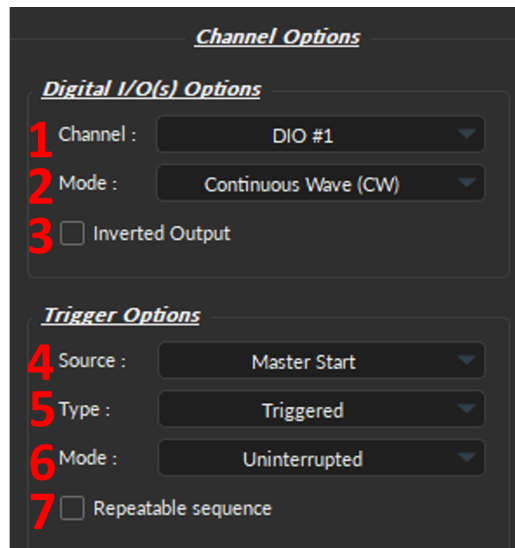
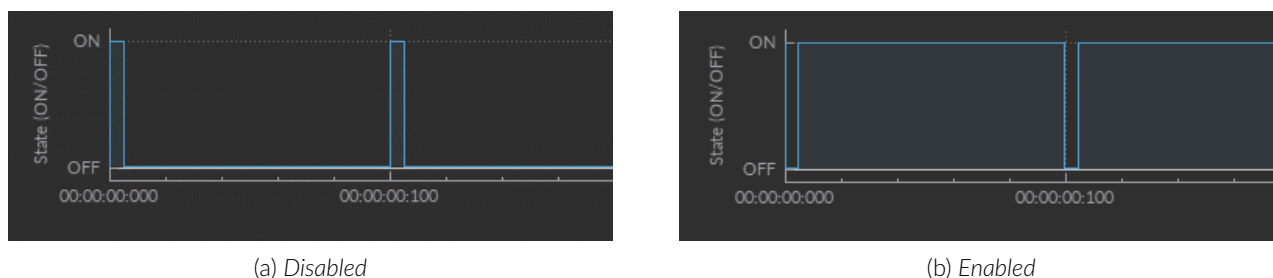

Figure 8.11: Channel(s) configuration window, Digital I/O Channel Options
Figure 8.13: Inverted Output
1. The **Channel** (Fig 8.11, 1) identifies the channels available to create a Digital I/O. The channel can be changed by selecting a new one from the drop-down list. Each numbered channel on the physical OPG corresponds to the same number of the digital channel within the software.
2. The **Mode** (Fig 8.11, 2) identifies the type of signal sent (for output channels) or the way the signal is measured (for input channels). Three modes are available:
3. The **Inverted Output** checkbox (Fig 8.11, 3), when enabled, will convert every 0 to 1 and 1 to 0, such as in Fig. 8.13.
4. The **Source** trigger option (Fig 8.11, 4) specifies the element that will set off the digital output. Two options are available:
5. The **Type** (Fig 8.11, 5) defines how the trigger activates a sequence. This includes input sequences, which can be triggered/gated by an outside source.
6. The **Mode** (Fig 8.11, 6) defines how the sequence will run if a second TTL pulse is received before the sequence ends. This includes input sequences, which can be triggered/gated by an outside source. Four options are available:
7. The **Repeatable sequence** checkbox (Fig 8.11, 7), when enabled, will run the sequence when additional TTL pulses are received (Fig. 8.15).
The parameters contained in the **Sequence Options** depend on the **Channel Mode** (selected in **Channel Options**, Fig. 8.11), as following: